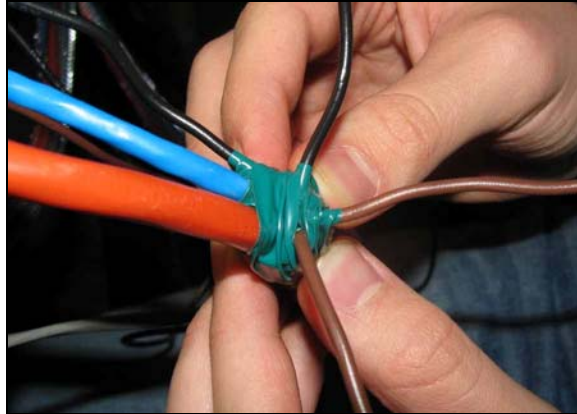

Figure 6: Seal Non-flared End of Brass Tube with Electrical Tape
- Apply electrical tape between all of the wires at the non-flared end of the brass tube; no two wires should be touching (Figure 6).